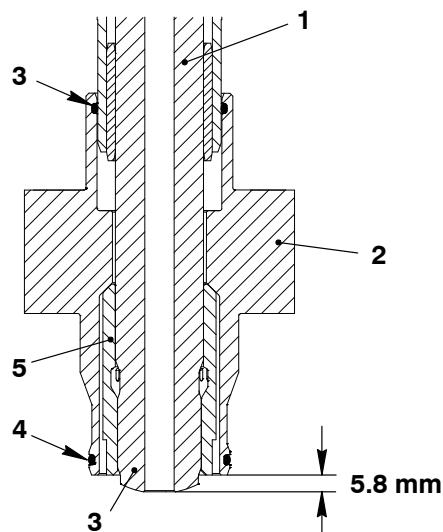

Fig. 3: Adjustment
- 1) Remove all of the protection from the sealing faces (SF) in the injection valve (3, Fig. 3) and the flow limiter valve (10).
- 3) Carefully put the HP injection pipe (2) in position in the injection valve (3) and the flow limiter valve (10).
- 4) Torque symmetrically the four screws (7) to 60 Nm.
- 5) Torque symmetrically the four screws (9) to 60 Nm.
- 6) Install the pipe clamp (5).
- 7) Install the applicable pipe clamp (1).